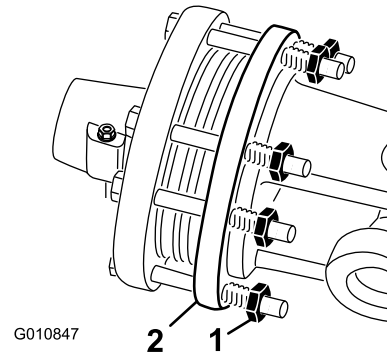

Figure 49
- At the end of the season, back off each of the clutch nuts 2 turns (Figure 49).